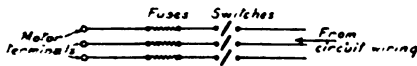

Fig. 6—Diagram of 3-Phase Connections.
**A.C. Motor Starting.**—The A.C. motor is usually "polyphase," that is, either two- or three-phase. For small power installations, such as are being considered in this article, "squirrel-cage" or "short-circuited rotor" machines are almost invariably used. These are more simple to start up than a D.C. machine, as no special starter is required. Consequently the motor (either two- or three-phase) can be switched directly on the line. The sketches, Figs. 6 and 7, show the connections in diagram form. In either case the switches used must be linked together, so as to make or break the circuit on each conductor simultaneously.